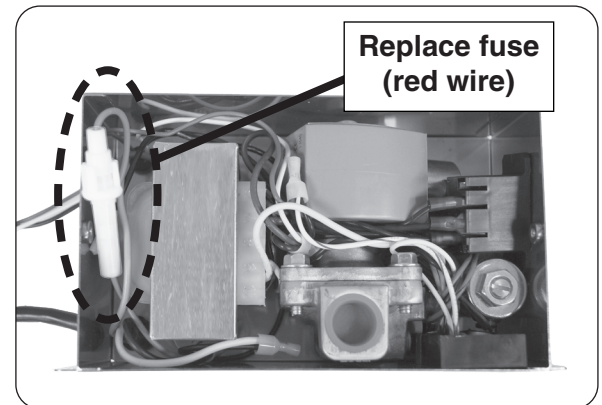

Fig. 59-3 Replace fuse
5. "Push in and twist" the fuse holder (red wire), exposing the fuse (see Fig. 59-3).